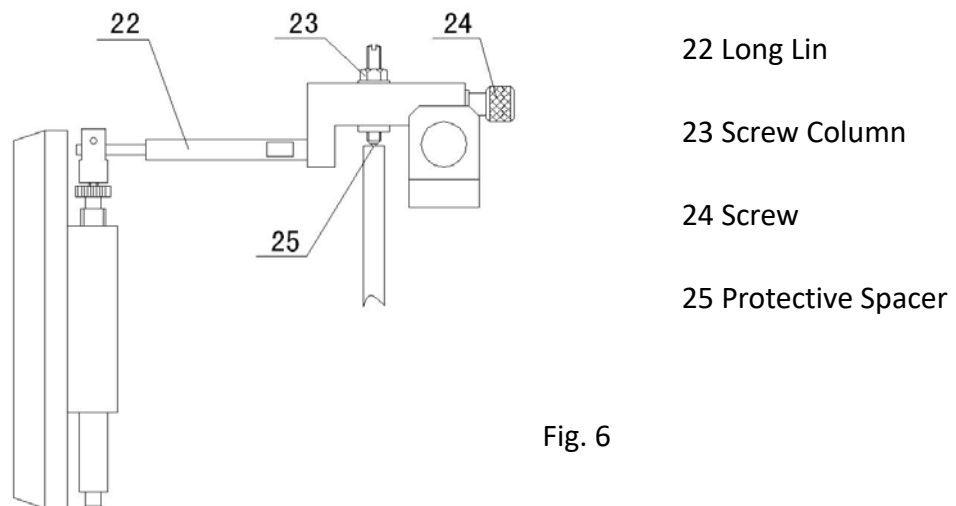

Fig. 6
When the hardness tester is well placed, open the upper cover (10) and the back cover. Unfasten the rubber belt locking the shaft (22) in the instrument body (Fig.6) and draw out the protective spacer (25) and the foamed plastic block under the level (11). And then unfasten off all the cotton belts fixing the movable parts and finally put on the cover to prevent the dust from entering the instrument.
### 5.3 Adjustment of the Indicated Hardness Values (Fig. 6)